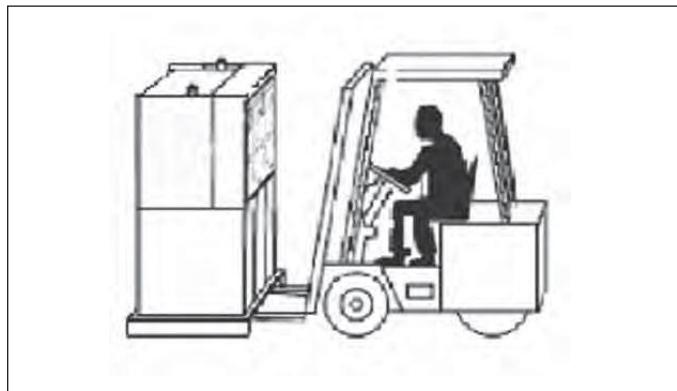
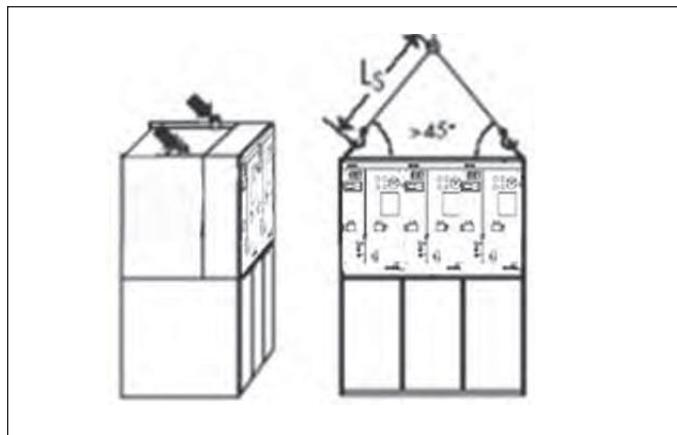

Figure 10.1 Forklift handling example
Figure 10.2 Crane handling example
- 1.3. In the case of handling by hand-push type forklift or by freight forklift, the switchgear should be put onto the transportation pallet (see **Figure 10.1**). In the case of crane handling, the lifting hook of the crane should be hooked into the two lugs on the top of the switchgear. The angle between the lifting rope and the top of the cabinet shall exceed 45° (the angle between the lifting rope and the plumb line shall not exceed 45°), so as to avoid any deformation to the cabinet or the lug (see **Figure 10.2**).